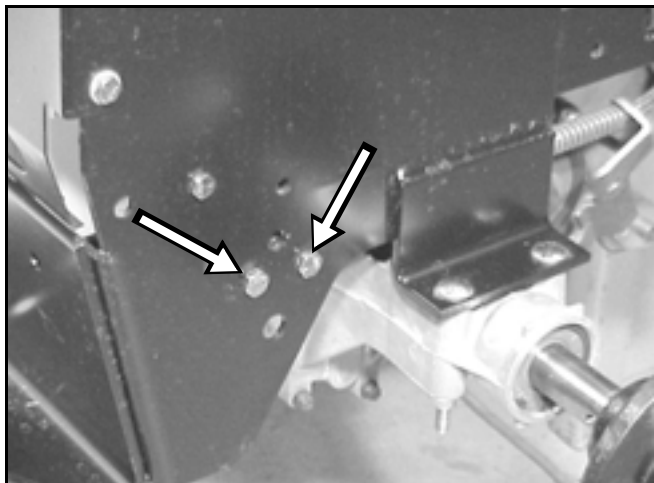

Figure 136
7. Install the cruise control bracket, with magnet, with two bolts and nuts (Figure 136).